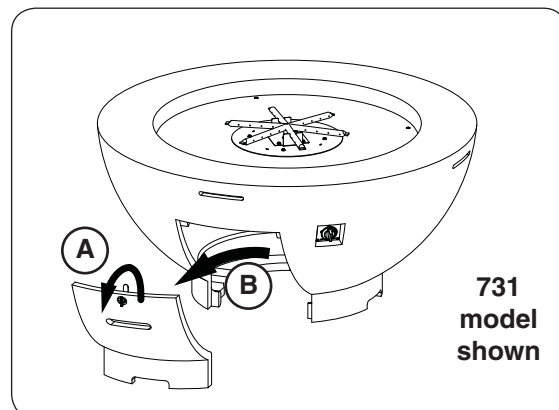

Fig. 23-2 Remove storage door (if applicable)
2. If equipped remove the storage door by first turning the door handle counter-clockwise, then carefully pulling the door outward (see Fig. 23-2). Store in a safe location.